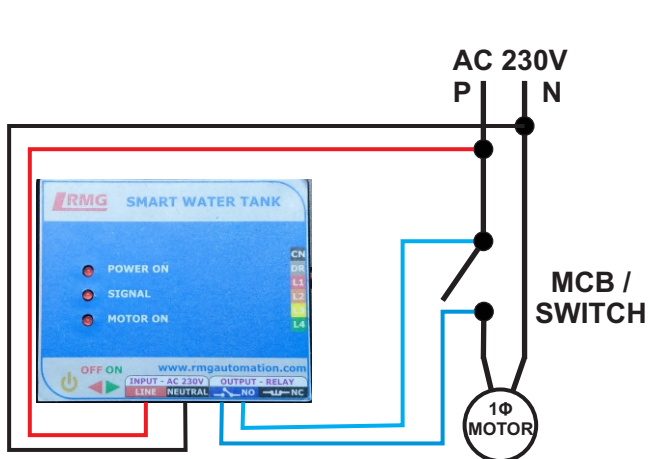
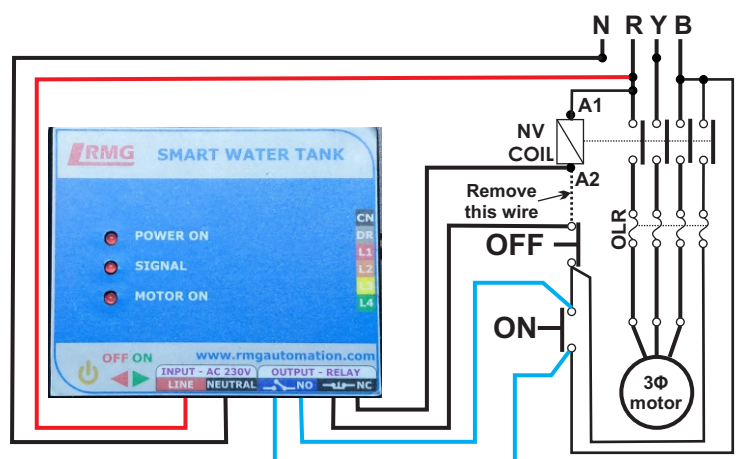
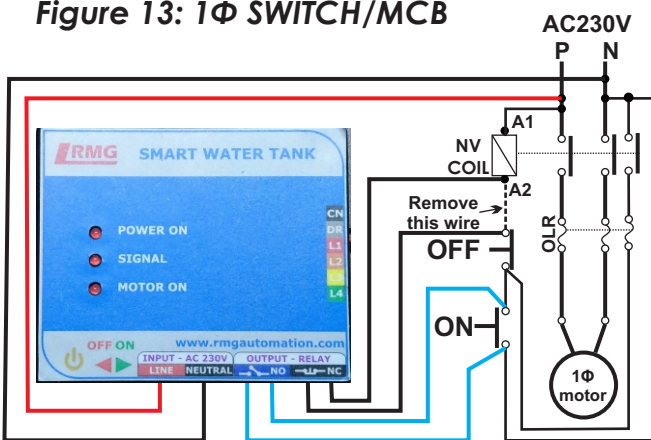

Figure 13: 1Φ SWITCH/MCB
Figure 14: 3Φ Starter
Figure 15: 1Φ Starter
**Step 2:** As per the model purchased, check the label and connect AC supply 230V to red and black wire of the controller refer figure 13 and figure 14.
**Step 4:** For starter, Connect blue pair wire of the controller to ON button of starter in parallel and black pair wire to OFF button in series (Refer to figure. 14 and figure. 15)